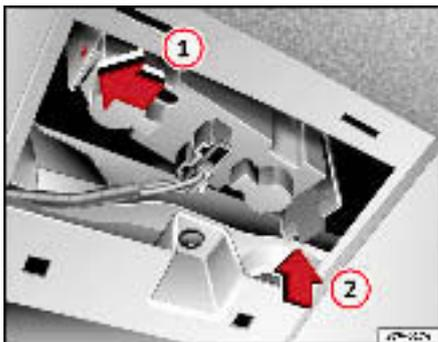

Fig. 166 Lights on tailgate
- Fit the lampholder in the corresponding opening (1) at the front tab and press the lampholder upwards at the back (2), until the elastic tab engages ⇒ page 247, fig. 166.